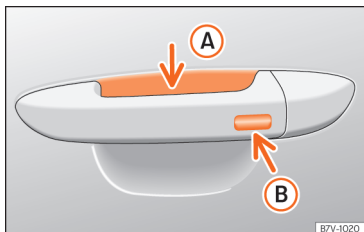

Fig. 52 Driver door lever: sensor surfaces.
»» **Fig. 52**
- Touch the sensor surface »» **Fig. 52 (B)** on the outside of the door handle. All turn signals flash once.
- Within 5 seconds, touch the sensor on the outside of the door handle »» **Fig. 52 (B)** once. Do not grip the handle while doing so. This temporarily deactivates the Keyless Access system.
To close all the electric windows and the sunroof using the **comfort function**, keep a finger for a few seconds on the locking sensor surface >>> **Fig. 52 B** of the door handle until the windows and roof have closed.